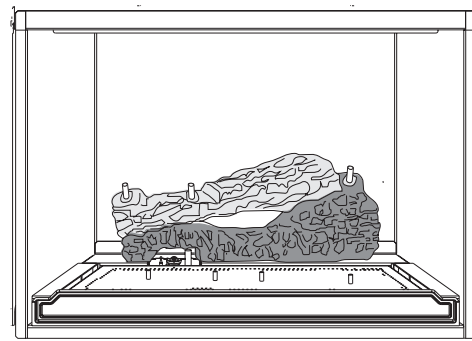

Figure 24. Place the rear log against the back wall.
1. Place the Rear Log on the burner skirt against the back of the firebox as shown in fig. 24.